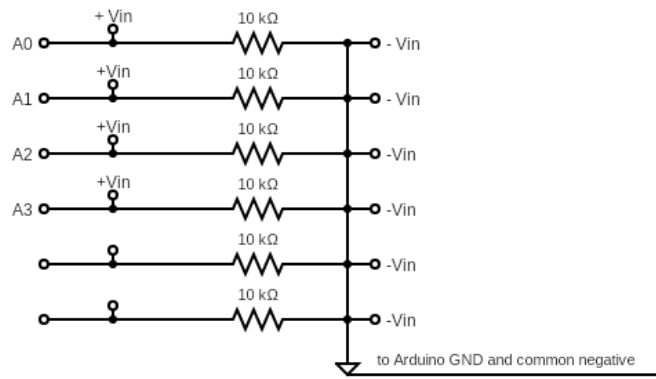

Figure 1 - Arduino UNO analog inputs isolation board
- The Arduino analog pins need to be decoupled, isolated from each other and from ground (with 10k resistors) to allow better measurements: this required an additional circuit board shown in Figure 1. I found out about this the hard way: while reading the recorded data, I noticed that when recording on one channel, the other channels were not at 0 but were also recording low fluctuating values.